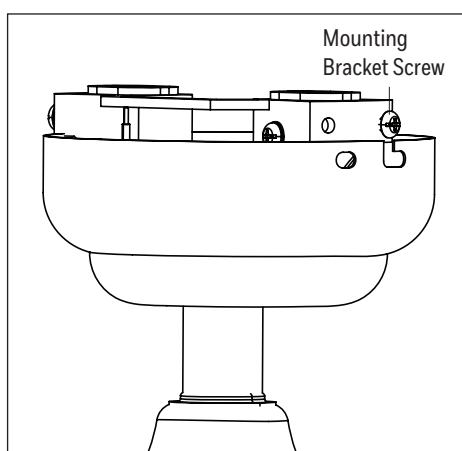

Figure 5.2
2. Align the canopy over the loosened mounting bracket screws. Place the L-slot of the canopy onto the mount bracket screws and rotate counterclockwise (Figure 5.2).